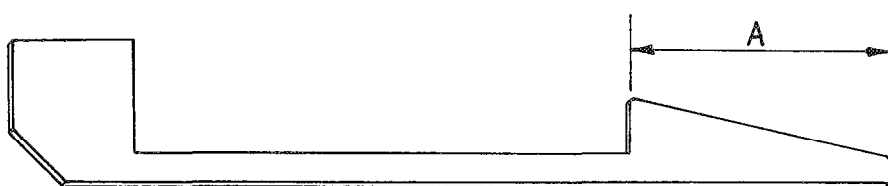

Figure 2
The best solution, as is often the case, is to make a well designed homemade tool. Take a piece of wire and bend it to look like **Figure 2**. The functional part marked (A) used to measure the blow distance can be made to whatever distance is desired. I made three gauges to carry in my tool kit. One is 44mm ($1\frac{3}{4}"$), one is 46mm, the last is 48mm ($1\frac{7}{8}"$). They are color coded so that I can quickly select the one wanted. Since they are homemade you can vary the length of the tool to fit your tool case or design the handle so it won't fall from your hand.